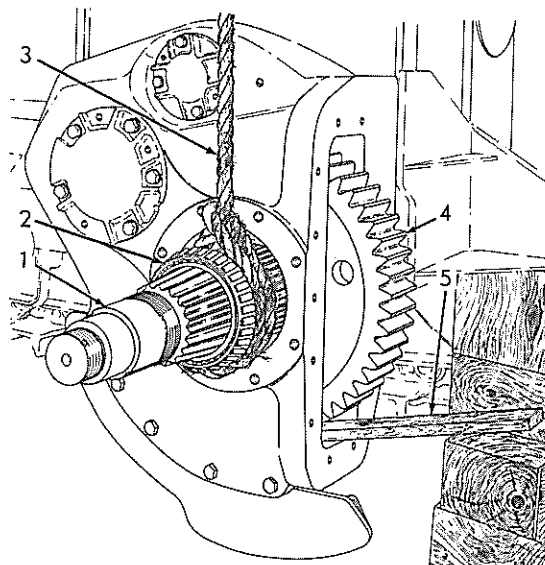

Fig. 6 Removing Sprocket Shaft
9. Place a wooden block under sprocket shaft driving gear, Fig. 6, to prevent gear from dropping when sprocket shaft is removed.
mented to bearing cage. Tie bearing adjustment shims (59) to cage to prevent loss. Remove sprocket shaft from driving gear, Fig. 6; remove driving gear from steering clutch and final drive housing.